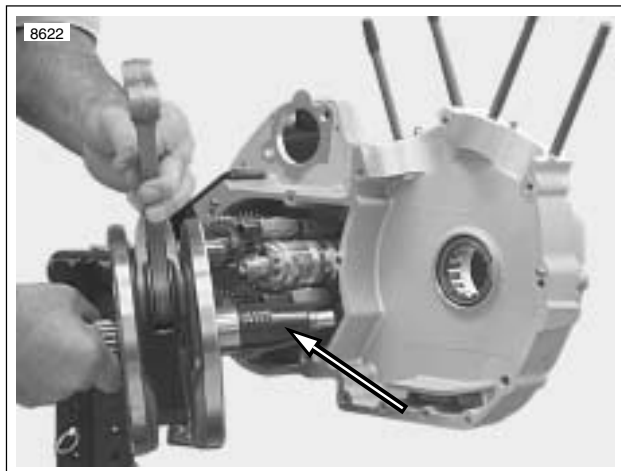

**Figure 6-83. Crankcase Fasteners**
- c. See Figure 6-83. Tighten 5/16-in. fasteners to 15-19 ft-lbs (20.3-25 Nm).